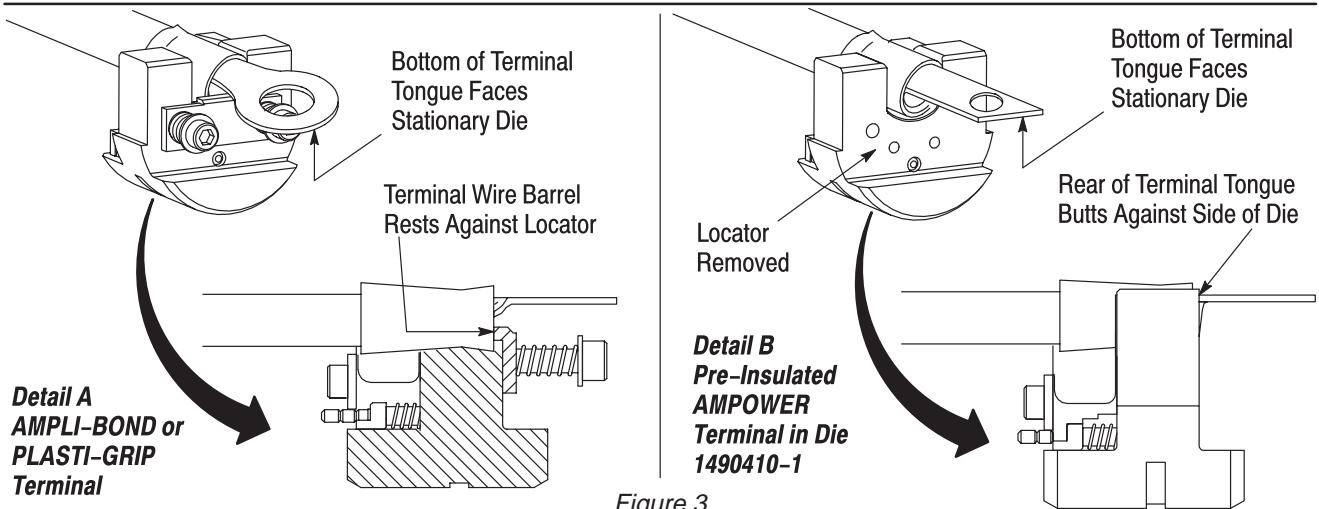

Figure 3
3. Place terminal on dies. See Figure 3, Detail A. Bottom of terminal tongue should face stationary die and terminal wire barrel should rest against spring-loaded locator.
**NOTE** *When crimping pre-insulated AMPPOWER terminals in die 1490410-1, it will be necessary to remove the locator. Position the terminal in dies as shown in Figure 3, Detail B. Bottom of terminal tongue faces stationary die and rear of terminal tongue butts against the side of the die.*